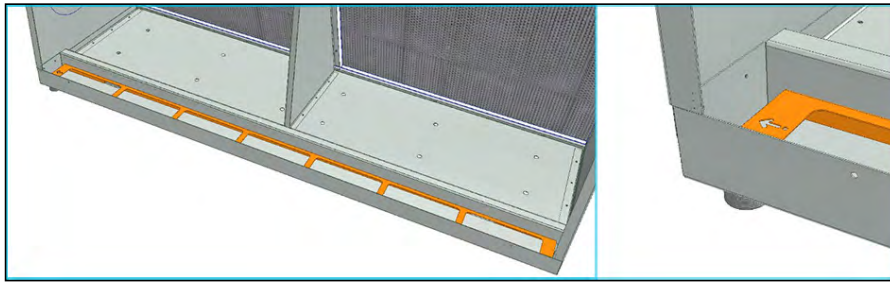

Figure 35. Water Collection Gutters as seen with Pre-Cooler Pads Removed
- **TSDC2 and TSDF2 Only:** If necessary, the Pre-Cooler Pad supports located in the water collection gutters can be removed by lifting the pieces out of the gutters. Note the orientation of the arrows toward the sump for re-installation of the supports. See Figure 35 for more detail.